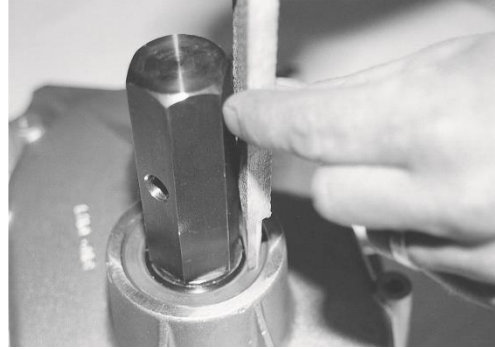

FIGURE 34
18. If an arbor press is not available, tap oil seal into place with thin, wood block and plastic hammer. Position seal against machined shoulder of transmission case with bore at right angles to shaft. FIGURE 34